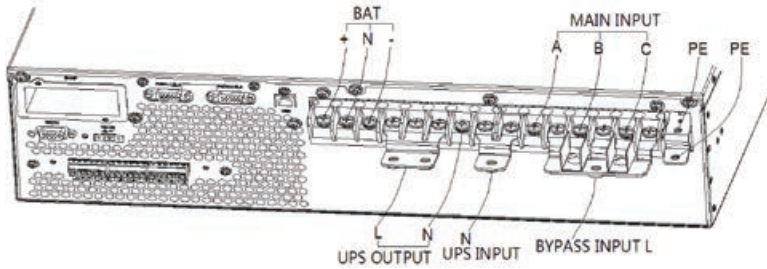

Fig. 3-18 Wiring diagram of 3 phases in 1 phase out, dual input
2. As shown in Figure 3-18, use No.5 copper bar to connect bA, bB, bC terminal, use No.7 copper bar to connect BATN, oN, bN, mN terminal, use No.4 copper bar to connect oA, oB, oC terminal.